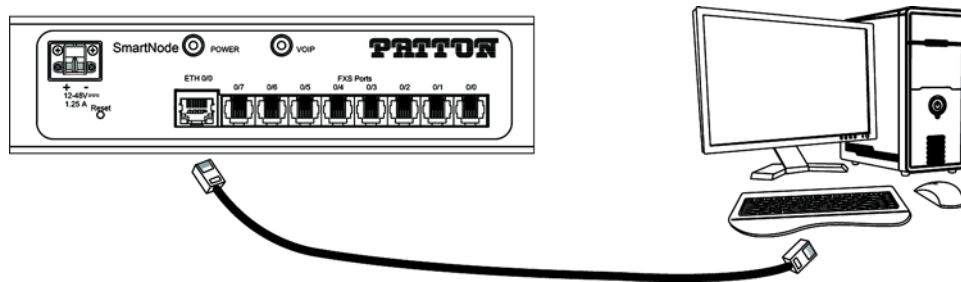

Figure 15. Connecting the SmartNode to a laptop PC
1. The SmartNode device is connected to a laptop PC (see figure 15) that is configured with a fixed IP in the same range as the SmartNode device's IP address (for instance: PC's IP address; 192.168.200.20; mask: 255.255.255.0).